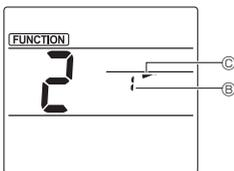

Fig. 5-2
- In the Function setting screen, press the **DOWN** button ④ and select function No. "2".
- Press the **SET** button ③.
- The vane number ⑧ blinks. (Fig. 5-2)
- Press the **DOWN** button ④ to select the vane number.
- The airflow direction setting ⑨ blinks. (Fig. 5-2)
- Press the **DOWN** button ④ to select the airflow direction at which you want to fix the vane.